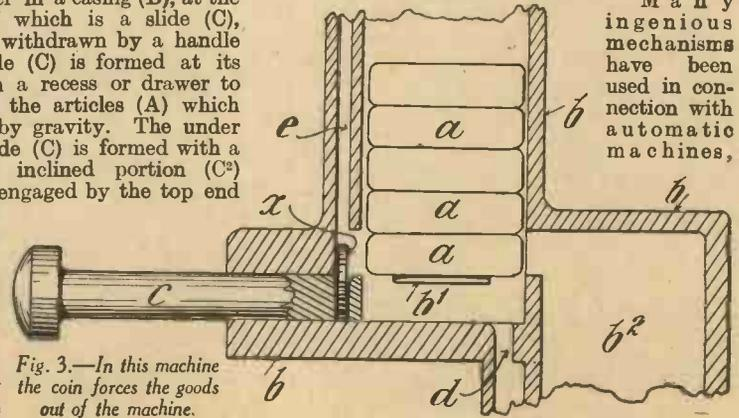

Fig. 3.—In this machine the coin forces the goods out of the machine.
movement and weight of the coin momentarily depresses the lever, causing its forward end to push up the slide (C) and with it the cigarette above it. The cigarette then rolls over the stop (B¹) into a tray (B²) situated on the outside of the casing. In Fig. 3 is shown another method in which the coin is utilised to actually contact with the goods to deliver them. The packeted goods (A) are piled vertically in a casing (B), the lowermost one resting on side flanges (B¹). A spring-controlled slidable push rod (C) is slotted at its inner end to receive a coin (X) as it emerges from a chute (E). On pressing in the rod (C), the top part of the coin engages the edge of the article and pushes it out into a delivery shoot (B²). At the end of the travel of the rod, the slot carrying the coin coincides with a slot (D) and falls through into a coin receptacle.